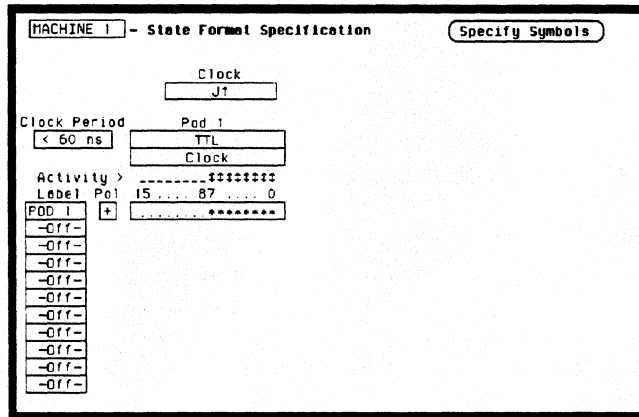

Figure 3-13. Format Specification for Data Test 2
- In the **State Format Specification** assign the **Clock Period** to < 60 ns, and assign the rising edge of the J clock to the **Clock** field. Also, assign the lower 8 channels of the pod under test to a label as in figure 3-13.
- In the **State Format Specification** menu assign the **Clock Period** to **< 60 ns**, and the falling edge of J clock to the **Clock** field. Also, assign the lower 8 channels of the pod under test to a label as in the previous test figure 3-13.